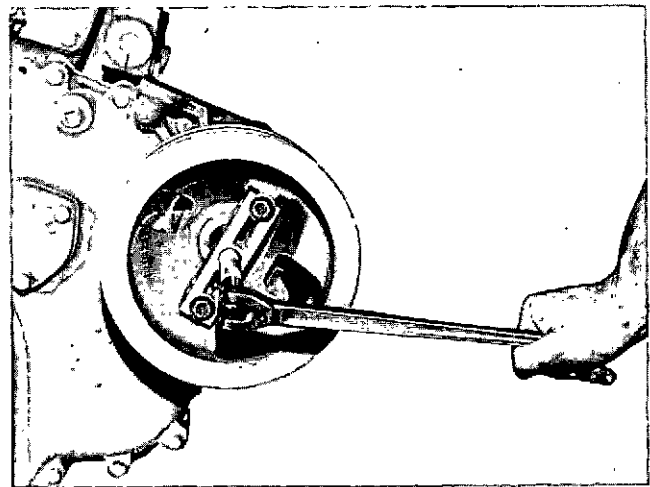

Fig. 0-23, V40056. Removing water pump drive pulley with ST-647
3. Using ST-647 Puller, remove pulley from compressor crankshaft. Fig. 0-23.